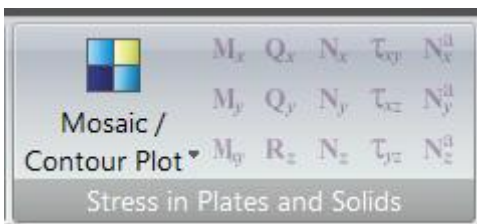

Fig. 13 – Panel Stress in plates and Solids
- Stresses in plates and volumetric SEs (Fig. 13) – operations for coloring plates and surfaces of volumetric elements according to the values of stresses in them.